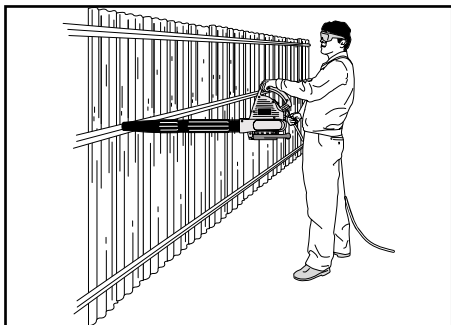

Fig. 18
3. Use the blower for walls, overhangs and screens (Fig. 18).